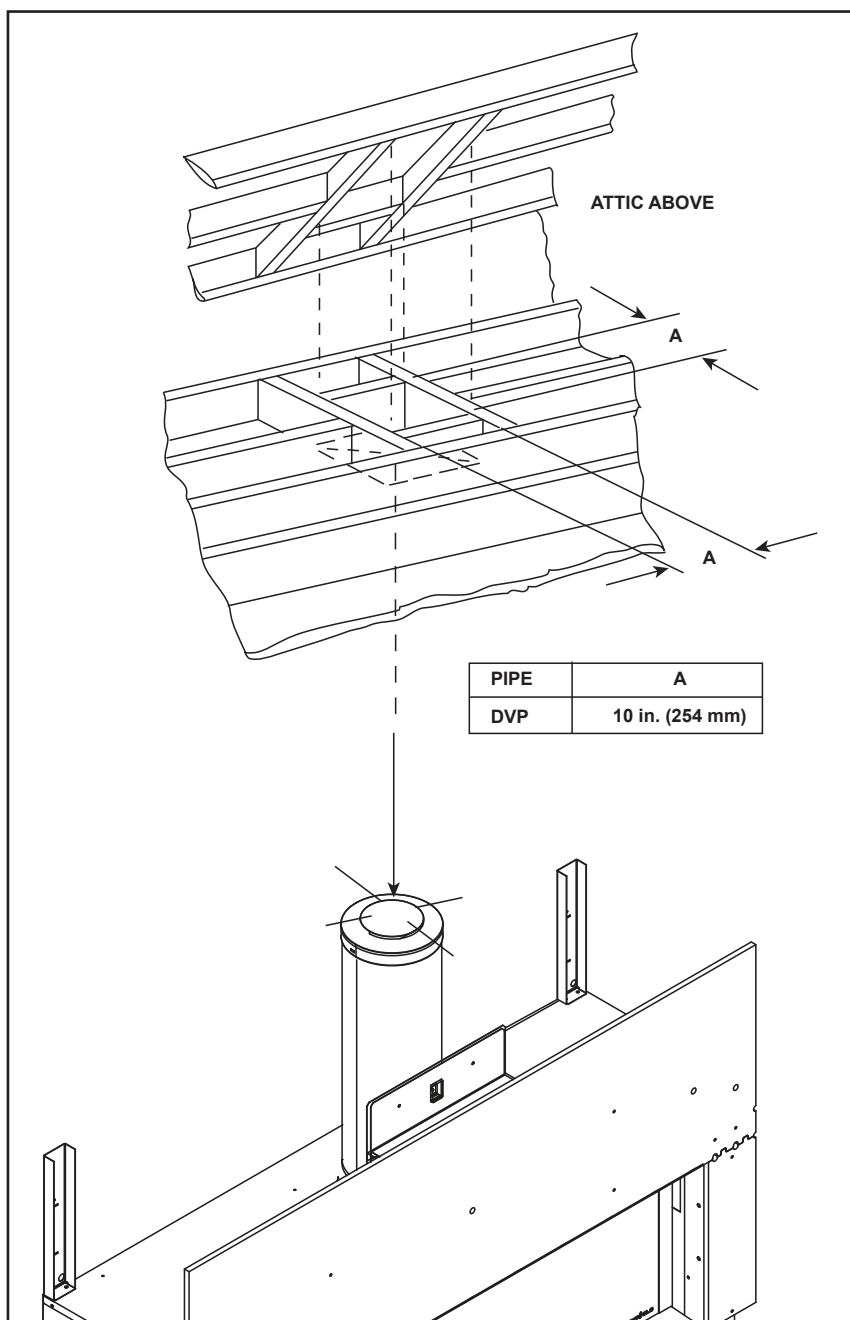

Figure 5.3 Installing Ceiling Firestop
- **DVP pipe only** - Frame an opening 10 in. by 10 in. (254 mm by 254 mm) whenever the vent penetrates a ceiling/floor. See Figure 5.3.